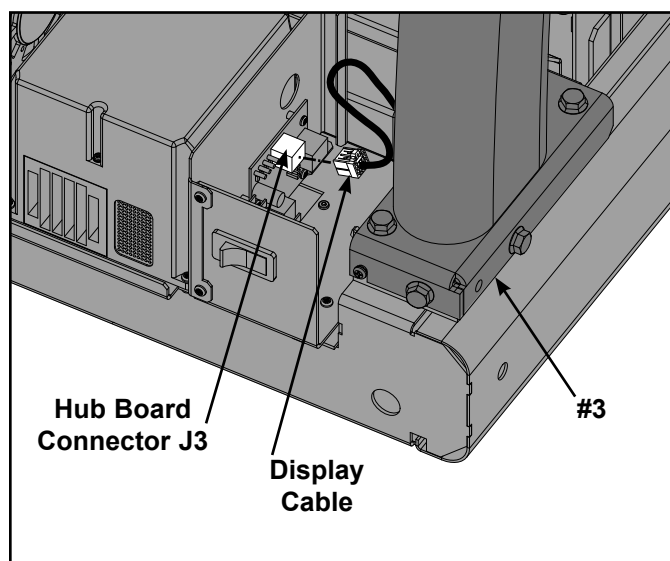

Figure 6
- C. Plug the display cable, located at the bottom of the upright assembly (#3) into the hub board connector J3. See Figure 6.